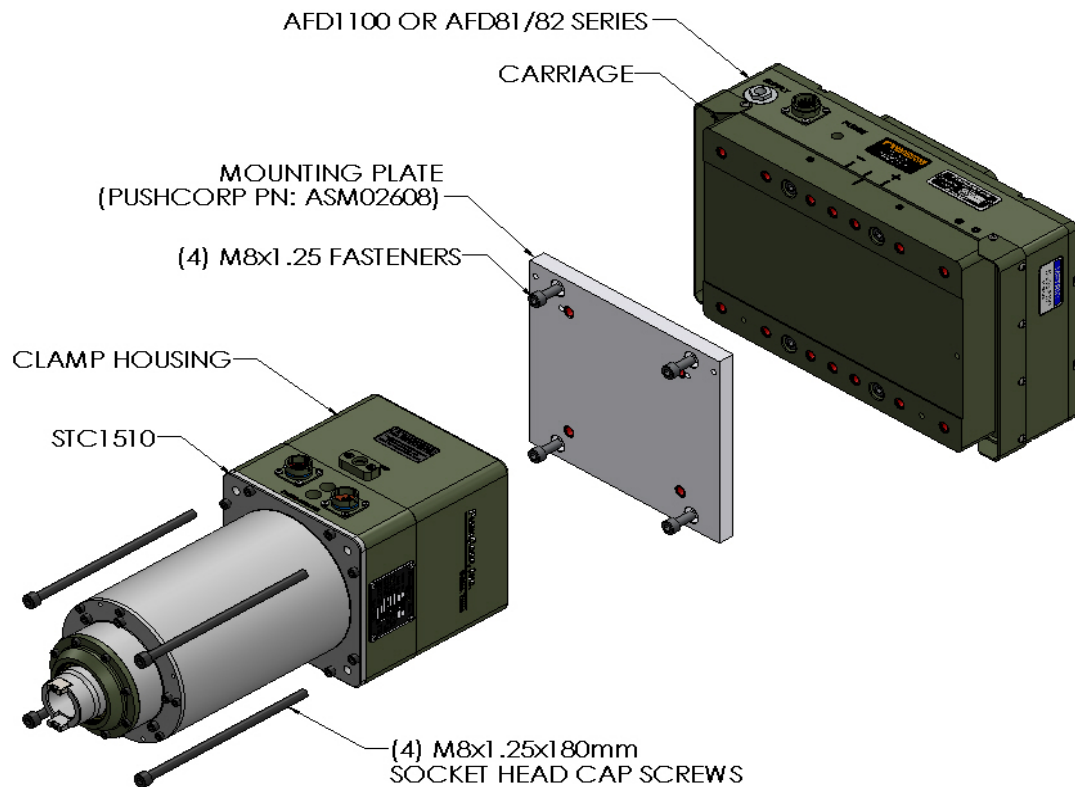

Figure 1. STC1510 Perpendicular-Axis Configuration
To attach the STC1510 to an AFD in a Perpendicular-Axis configuration, position the Clamping Housing over the Carriage as shown in Figure 1. Then secure the unit using four (4), M8x1.25x180mm, Socket Head Cap Screws. Tighten the fasteners to the torque specified in Section 4.0.